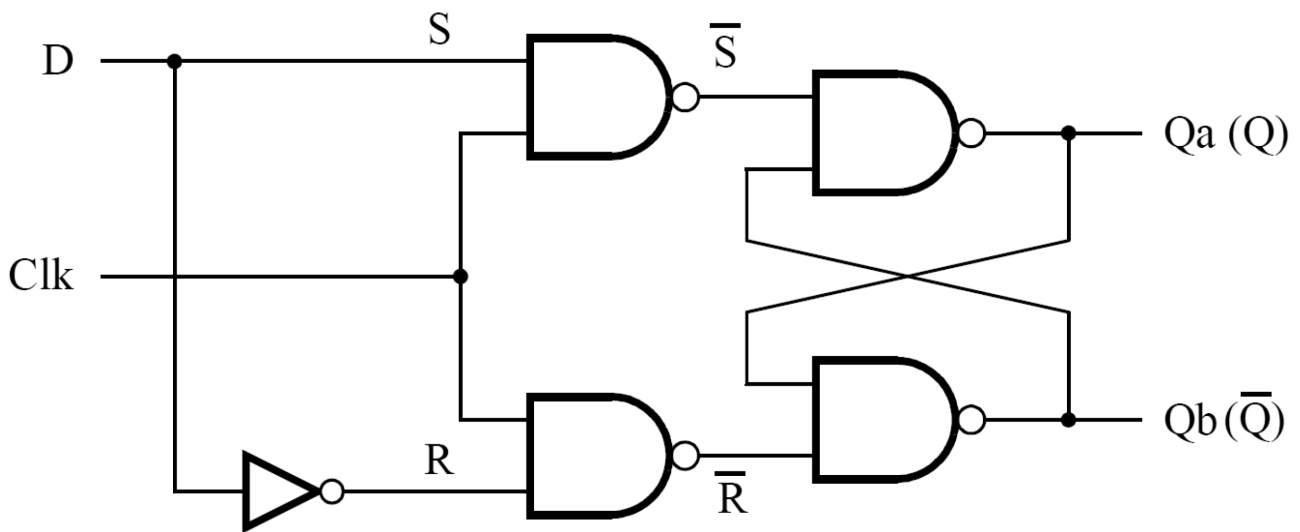
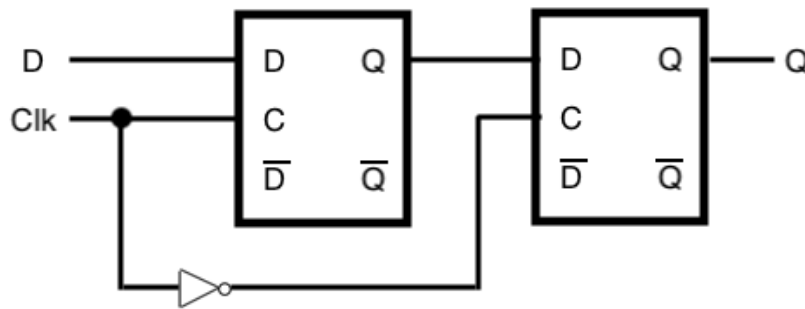

Figure 4.1: Circuit for a gated D latch.
Figure 4.2: Circuit for a master slave flip flop using gated D latches.
Figure 4.1 shows the circuit for a gated D latch. In this part, you will build the gated D latch using the 7400 chips (as in Lab 1) on the protoboard (breadboard). Refer back to the Lab 1 handout for 7400 chips schematics, specifications, and pin-out.
The most common storage element today is the *edge-triggered D flip-flop*. One way to build an edge-triggered D flip-flop is to connect two D latches in series, such that the two D latches use opposite levels of the clock for gating the latch. This is called a master-slave edge-triggered D flip-flop, see Fig. 4.2.
1. In Logisim, build this gated D latch from Fig. 4.1 and the master slave flip-flop from Fig. 4.2, each in its own module. The flip-flop should be implemented using the module you create for the D latch, and the latch should make use of interconnected 7400-series chips. For this exercise, you are allowed to use NAND gates. Recall from Lab 1 what a gate-level schematic looks like.